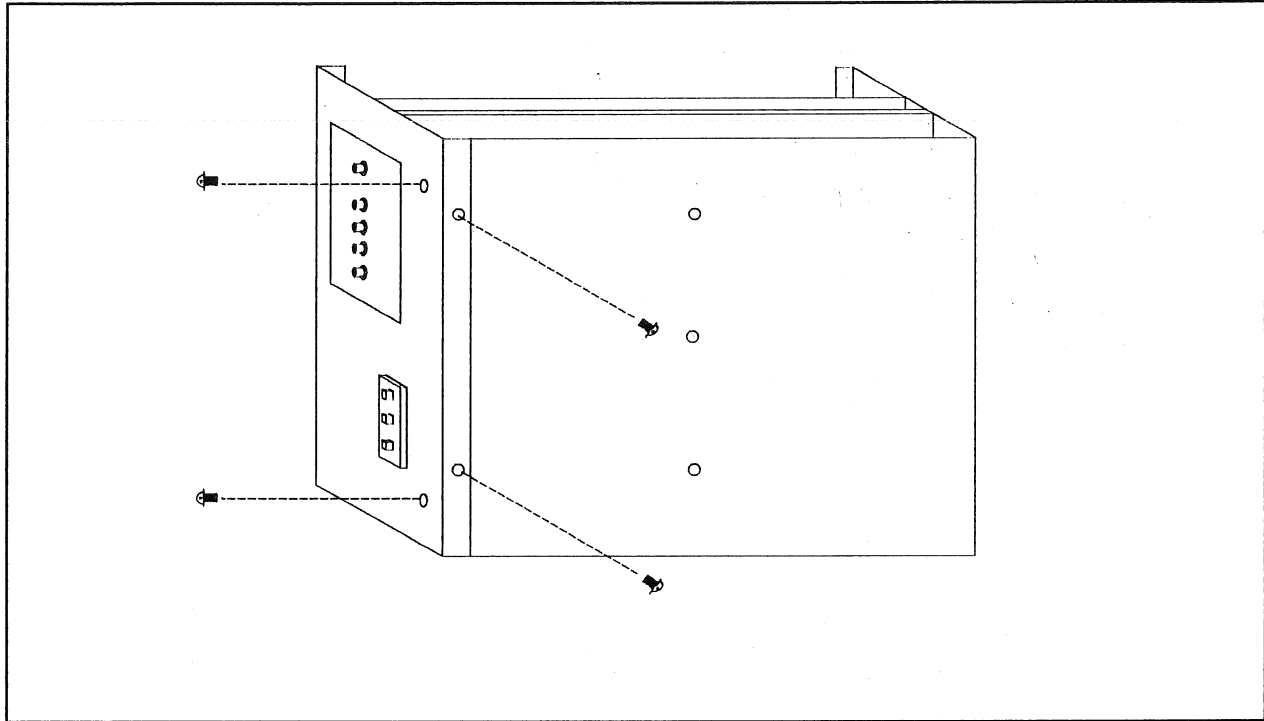

Figure 3-6. Removing the Front Panel Screws
- 6** Remove the four screws that hold the front panel. See Figure 3-6.